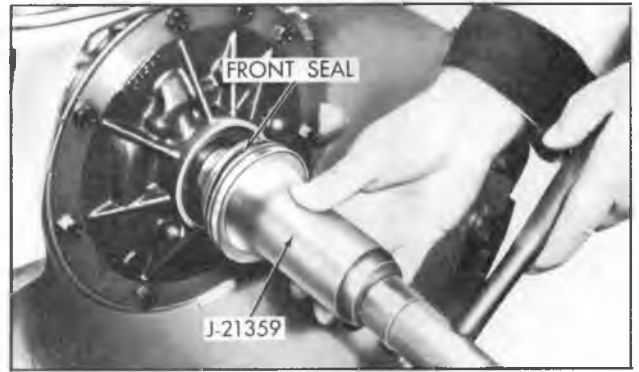

Figure 124—Installing Pump Seal
19. If necessary, install a new front seal. Apply a non-hardening sealer on outside of seal body, then using tool (J-21359), drive seal in place (fig. 124).